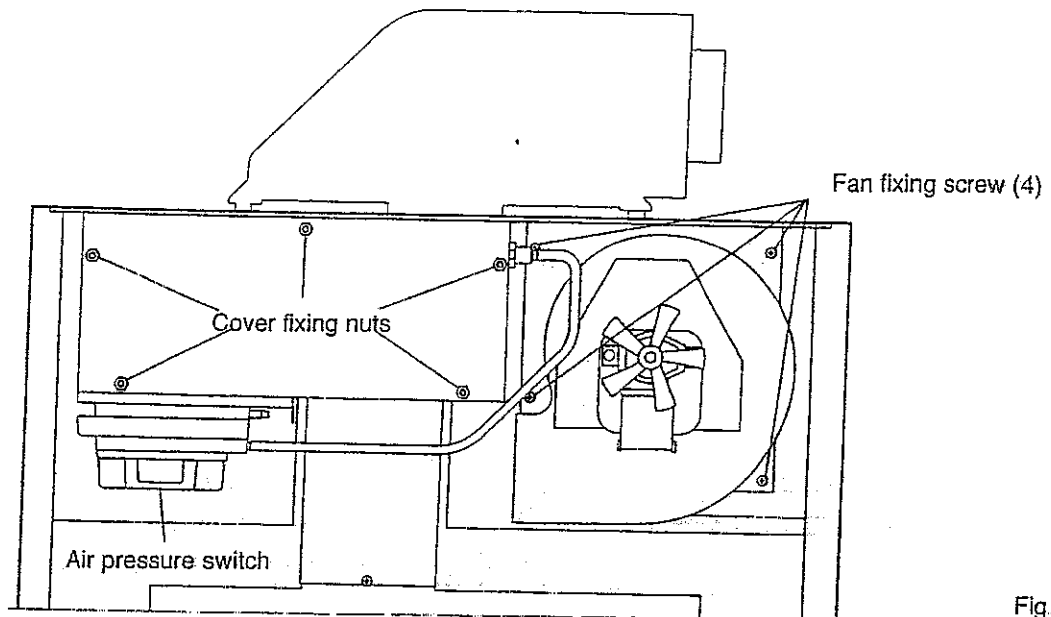

Fig. 45
- Remove the five screw securing the air collection plate (fig. 45), and withdraw the plate complete with the air pressure switch (Take care not to lose «P» clip)
- Re-assemble in reverse order (refer to fig. 45 for wiring)
- c) Unscrew the four fixing screws securing the fan remove air sensor tubes and withdraw fan (fig. 45).